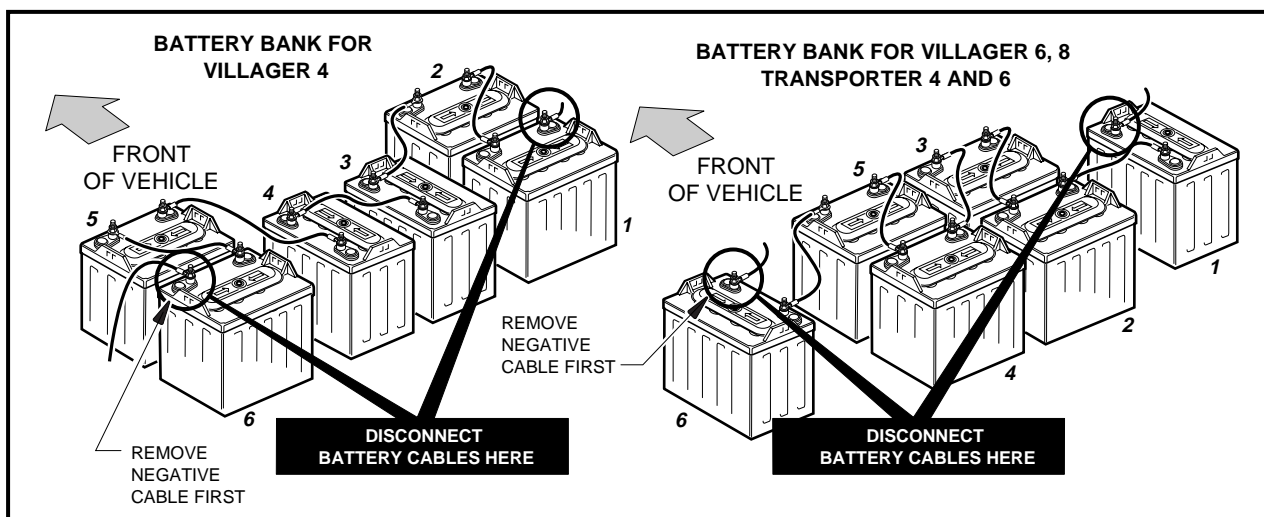

Figure 1-2 PowerDrive Battery Configuration
- TO AVOID UNINTENTIONALLY STARTING THE VEHICLE, DISCONNECT BATTERIES AS SHOWN (**FIGURE 1-2, PAGE 1-3**).